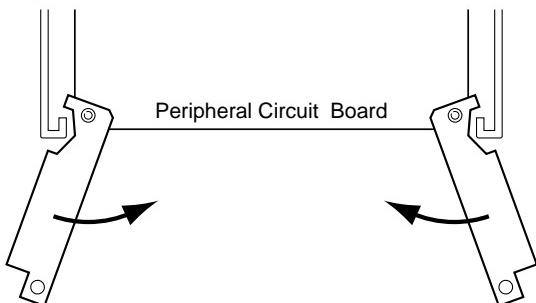

Fig. 3.4.2 Installing the Peripheral Circuit Board
(1) Unfasten the screws located on the left and right sides of the front panel of the S5U1C63000H1 by turning them counterclockwise, then remove the front panel.
(2) Insert the Peripheral Circuit Board into the uppermost slot and push it using the jig attached with the S5U1C63000H1 as shown in Figure 3.4.2.